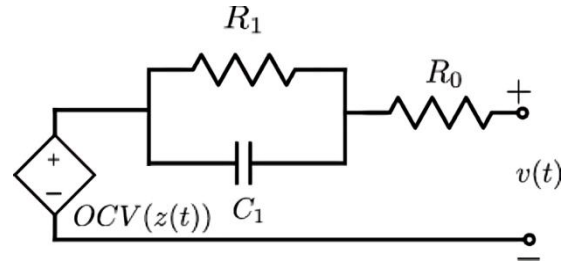

Figure 3: Thevenin 1RC Model
**Thevenin RC models** build upon the Thevenin model by incorporating RC (resistor-capacitor) elements. The *Thevenin 1RC model*, with a single resistor ( $R_1$ ) and capacitor ( $C_1$ ), provides a basic first-order representation of battery dynamics.  $R_1$  reflects limitations to charge transfer, while  $C_1$  captures short-term energy storage and transient behavior (Figure 3).